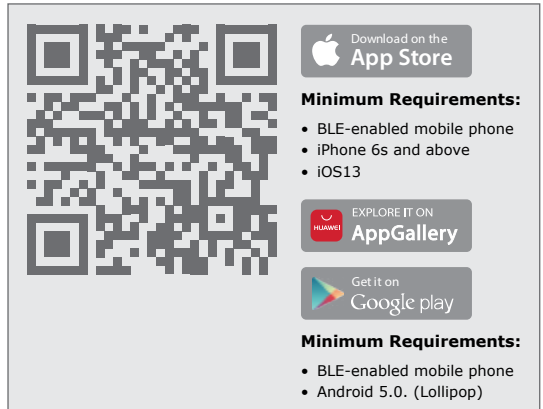

FIGURE 78
1. Scan the QR Code in Figure 78.